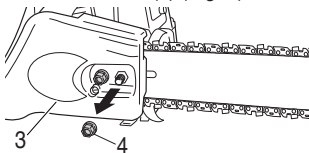

Fig. 3
2. Remove guide bar clamp nuts (4). Remove the side case (3) (Fig. 3)